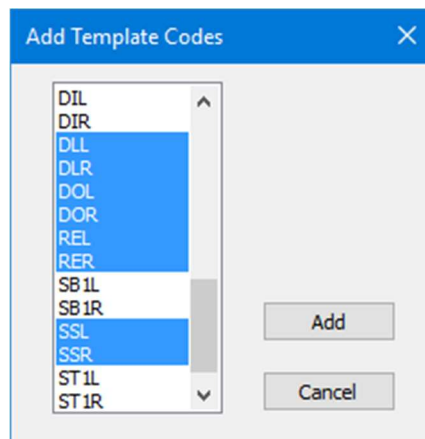

Figure 23-3: *Add Template Codes* Dialogue Box after Selecting Ditch Bottom Point Codes
8. Make sure that *Section points* is checked and that *Offset* is **0.0** from *Disturbed Limits*. We will export data up to the slope stake lines (SS) but no further; in other words, we will export the disturbed area.
10. Select the *Boundary* check box to the right of it. This will limit our surface to the stay within the slope stake lines (SS).
12. Make sure that all important code features are added to the template codes list. Remove all existing codes and press the *Add...* button located in the bottom left corner of *Export to Terrain* dialogue box to open the dialogue box shown in Figure 23-3 below.